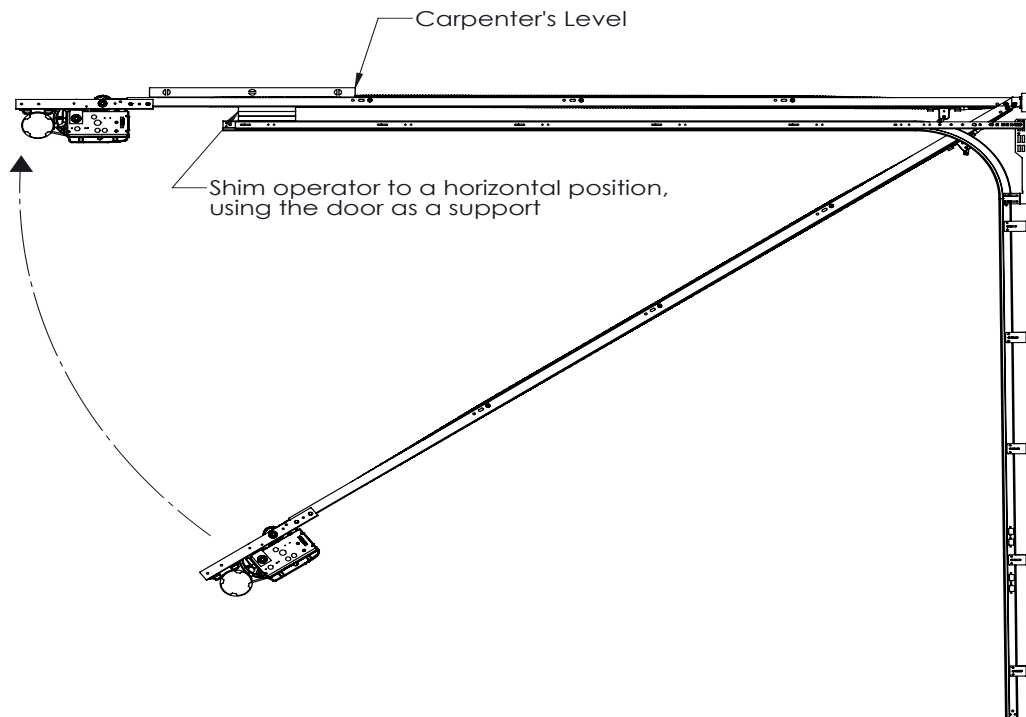

FIGURE 5
5. With the door fully open, place a level on top of the rail and use shims across the top section of the door to support the track assembly in a horizontal position.(Figure 5)